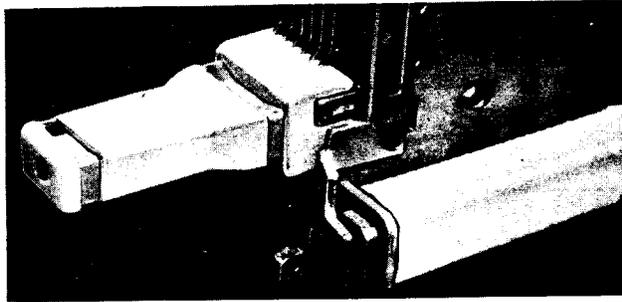

Fig. 3—459-Type Plugs (On 6-Wire Switch)
- (a) Before inserting the plug on the vertical unit, as shown in Fig. 3, position the slots of the plug in line with the vertical bars of the switch and the jaw of the plug in line with the metal lug of the frame.